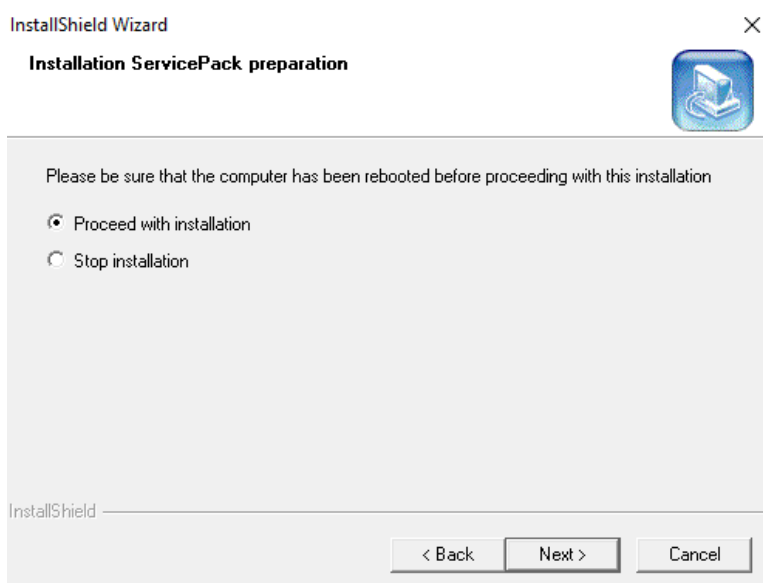

Figure 4-2. Isodat Service Pack installation - Proceed with Installation
3. In the **Installation Service Pack preparation** dialog, select **Proceed with installation**. Do not reboot the computer. Click **Next**, see Figure 4-2.